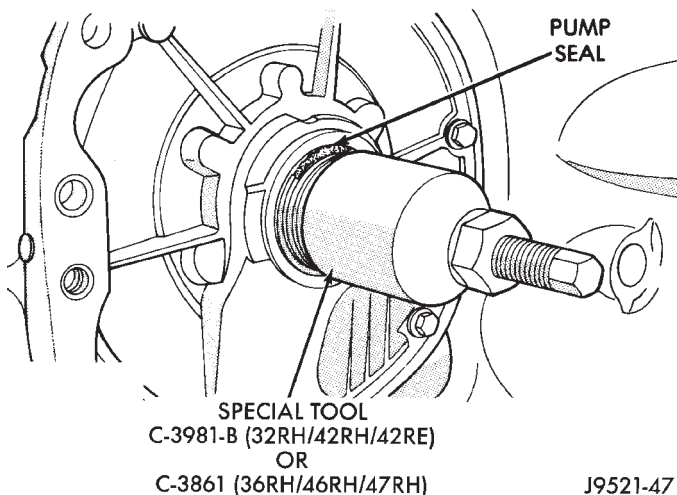

Fig. 129 Oil Pump Seal Removal
(14) Remove pump oil seal with Special Tool C-3981B (Fig. 129). Be sure to tighten tool threads completely into seal before using puller bolt to withdraw seal.